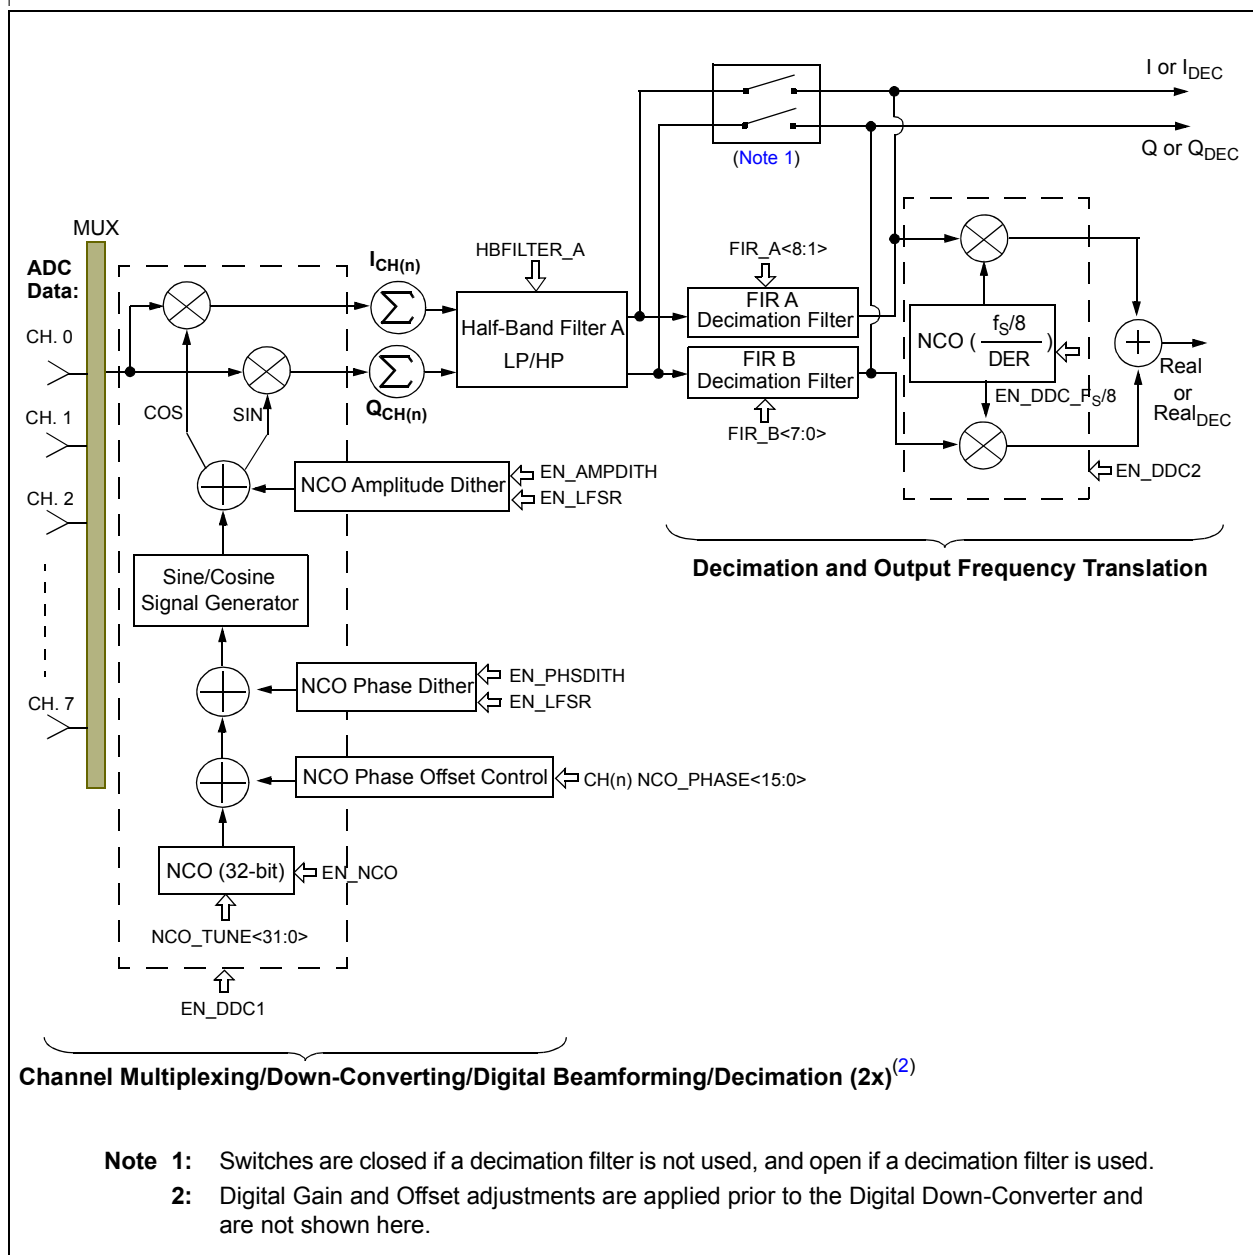

FIGURE 4-24: Simplified Block Diagram of CW Beamforming and I/Q Signal Processing.
Along with beamforming, many modern medical ultrasound devices support Doppler imaging, which processes phase information in addition to the classical magnitude detection (for brightness imaging). Ultrasound Doppler signal processing is used to determine movement in the body as represented by blood flow, which can help diagnose the functioning of a heart valve or blood vessel, etc. In a traditional ultrasound system, all of these functions are typically accomplished with discrete components. Figure 4-24 shows an example of an ultrasound system implementation using various specialized components.
- **Down-Conversion for each channel** with a unique phase of the same NCO frequency prior to summing the eight channels as shown in Figure 4-24.